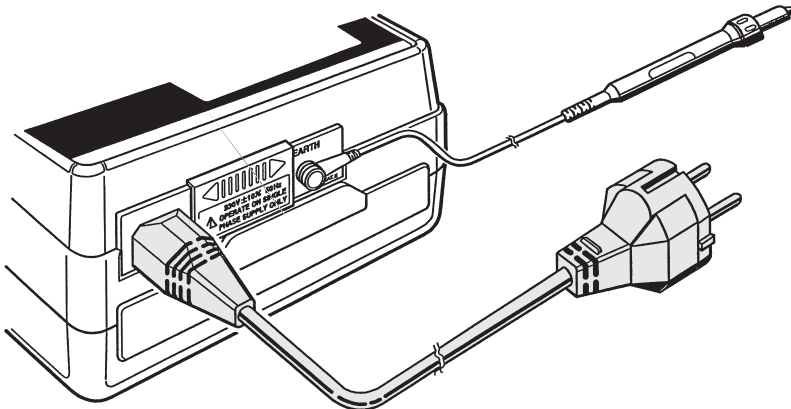
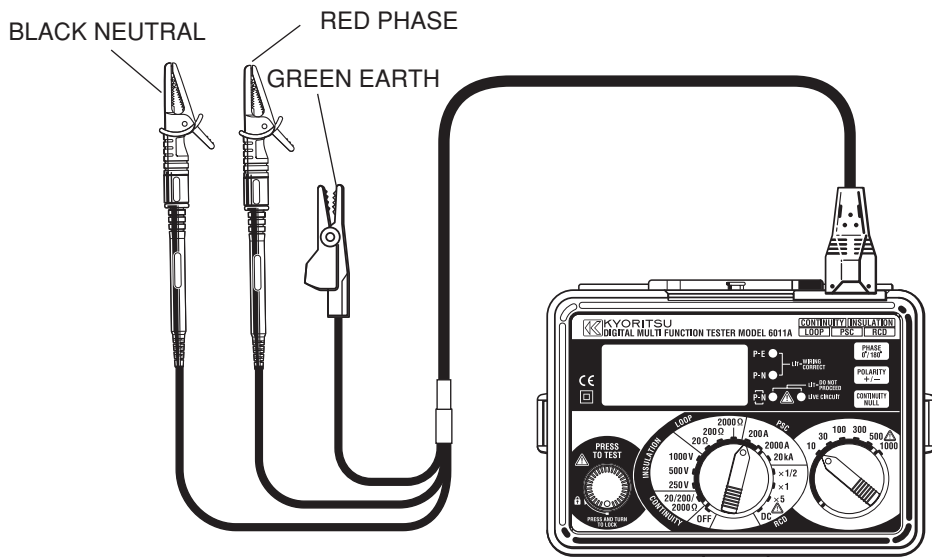

Fig 9
Fig 10
2. Connect the mains lead to the IEC socket of the instrument(see fig9).
4. Connect the instrument to the RCD to be tested either via a suitable socket outlet (see fig 9) or using the OMA DIEC(Model7133) test lead set (see fig 10) .